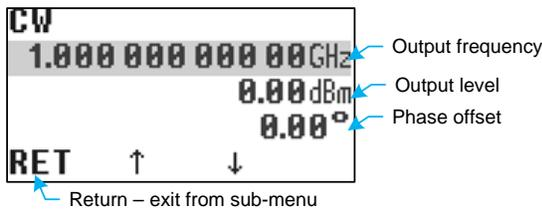

Figure 11: Continuous wave operation mode menu (Operation Modes> Continuous Wave)
6.2.1 Continuous Wave Operation Mode (CW)
Continuous Wave operation mode (CW) has following parameters (fig. 11 on the next page):